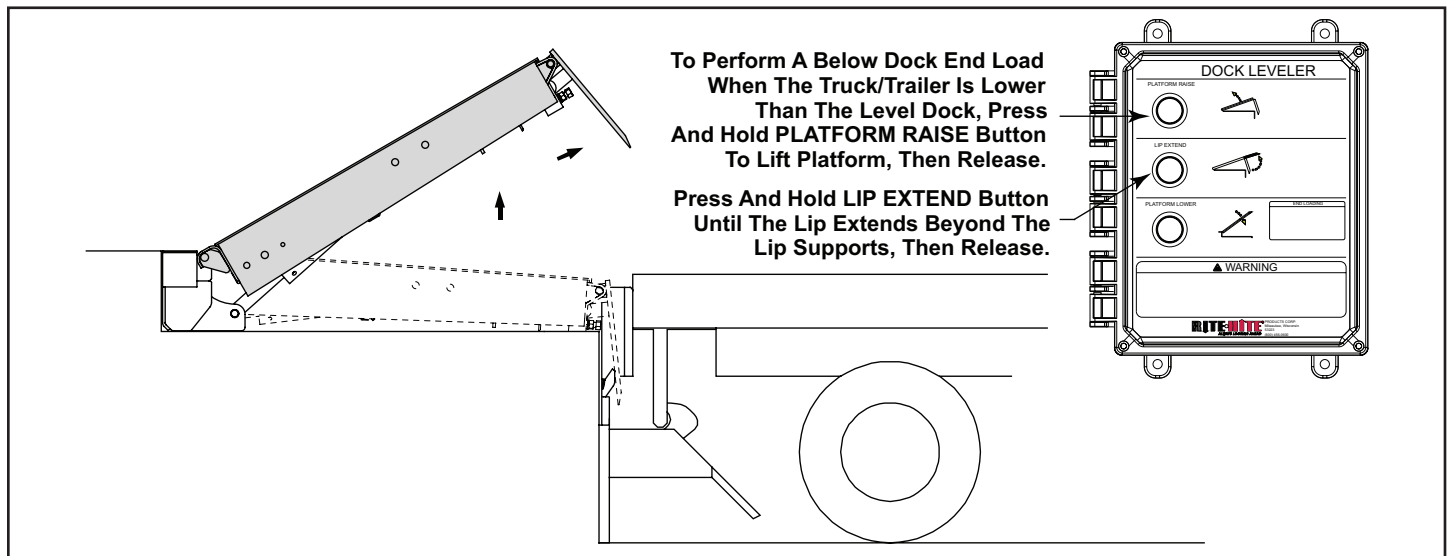

FIGURE 6 - BELOW DOCK END LOAD - EXTEND LIP
1. If the truck/trailer is lower than the level dock, press and hold the PLATFORM RAISE button to lift the platform and lip from the lip supports. Release the PLATFORM RAISE button. See Figure 6.